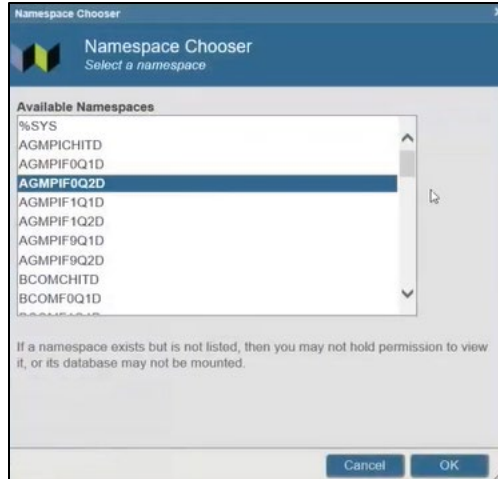

Figure 3-3: Namespace Chooser
2. Select an AGMPI Namespace in the **Namespace Chooser** (Figure 3-3). Click **OK**.